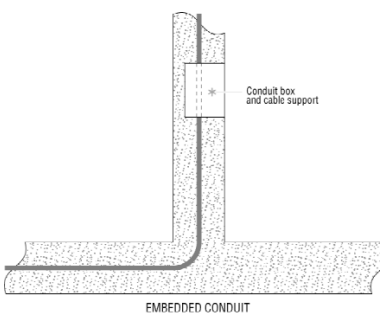

Figure 7
- Gypsum enclosures (Figure 7)